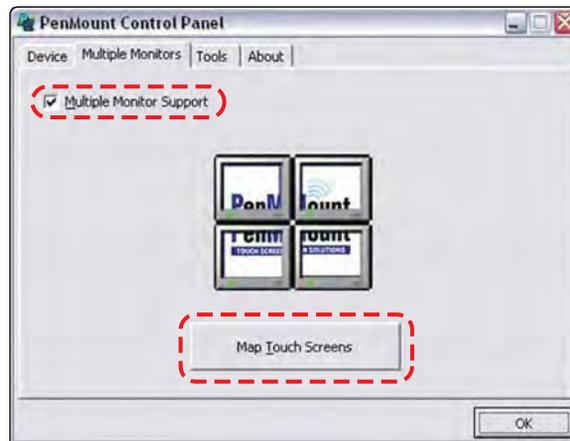

Figure 14-5 Sample Multiple Monitors tab
4. With the **Multiple Monitor Support** box checked, select the **Map Touch Screens** button (Figure 14-5).